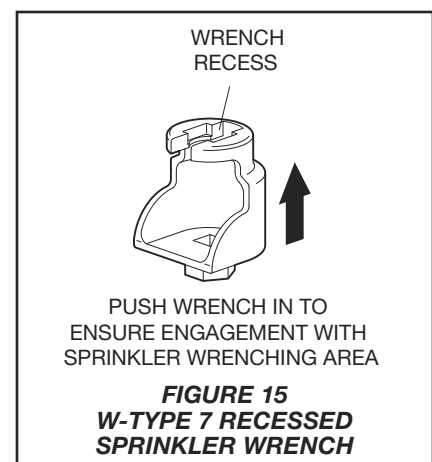

FIGURE 15
2. Tighten the sprinkler into the sprinkler fitting using only the W-Type 7 Recessed Sprinkler Wrench (Figure 15). With reference to Figures 1 to 4, apply the W-Type 7 Recessed Sprinkler Wrench to the sprinkler wrench flats.